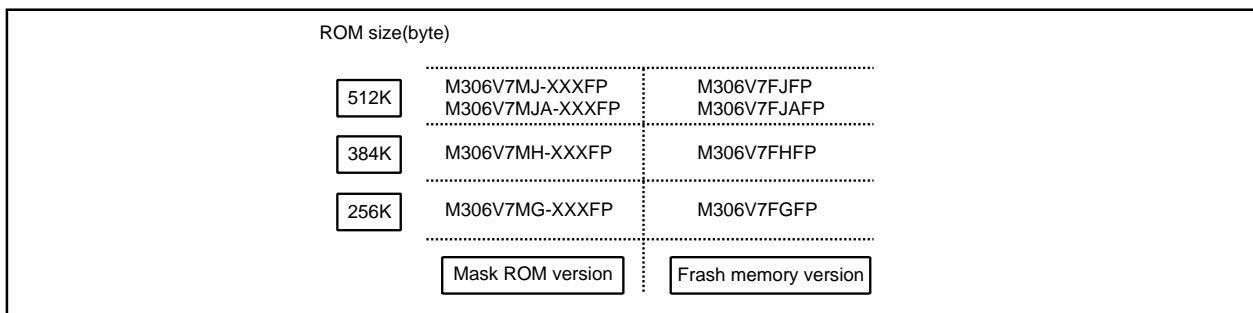

Figure 1.5.1 ROM development
- Memory size Refer to Figure 1.5.1 ROM development